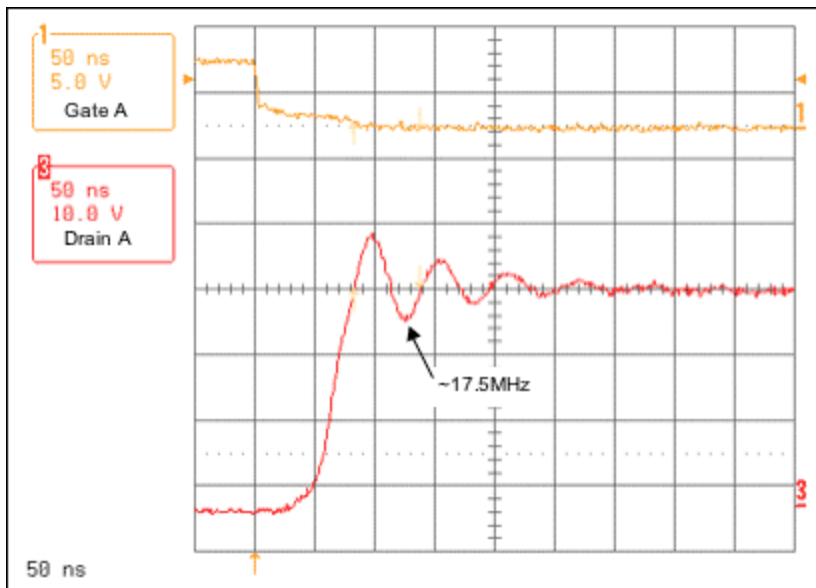

Figure 4. Resonant voltage spike frequency with 330pF shunt capacitor.
2. Apply a shunt capacitor across the drain to ground to reduce the resonant frequency to approximately half or 17.5MHz. As shown in **Figure 4**, a 330pF shunt capacitor reduces the resonant frequency to about 17.5MHz. The proper capacitor value was determined by trying different values of shunt capacitance. It is best to start with a small value (like 100pF) and proceed from there.